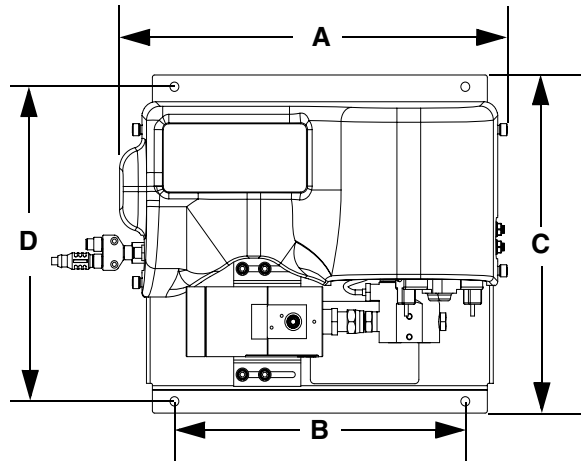

FIG. 15: Fluid Plate Assembly Dimensions
2. Mount and secure the fluid plate assembly to the automation unit (or other mounting surface) with appropriate size bolts through the 0.397 in. (10 mm) diameter holes in the base plate. See the mounting dimensions in Table 4 and FIG. 15.